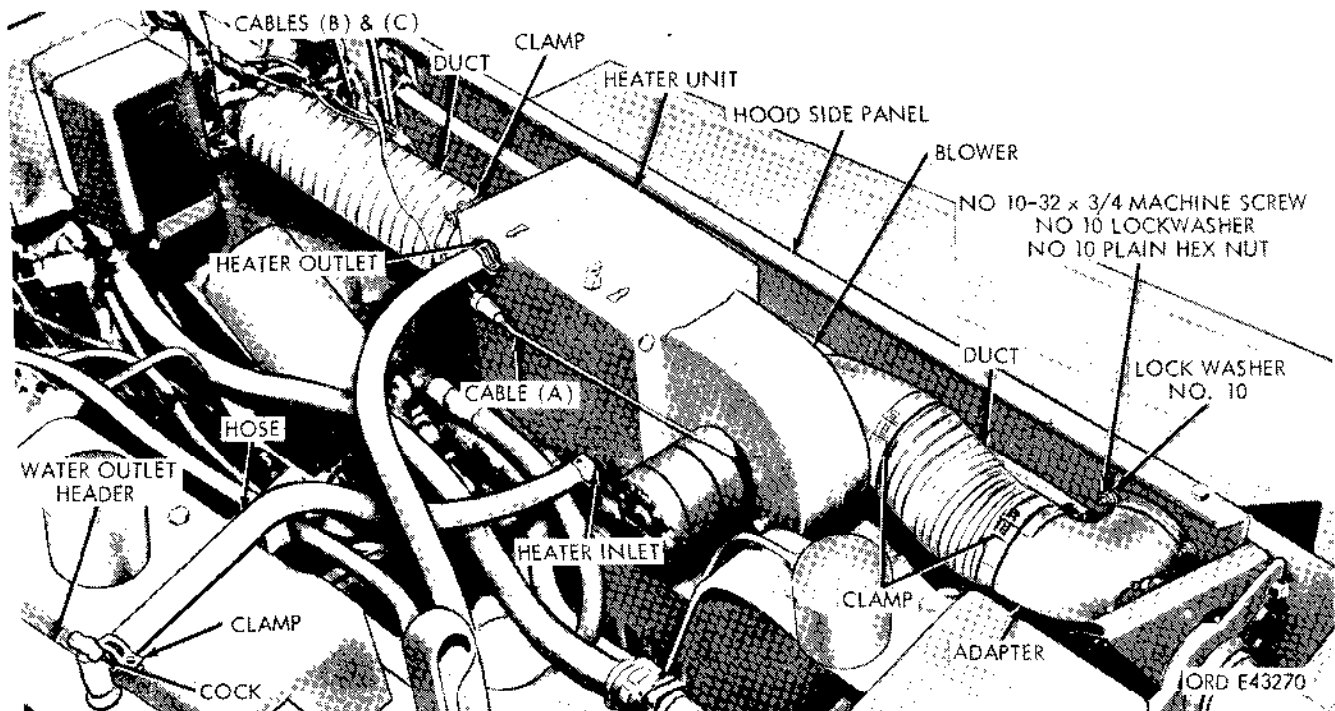

Figure 3-1. Personnel heater kit—hot water.
(1) Disconnect the cable (A, fig. 3-1) from the socket on the heater unit.
(2) Disconnect the cables (B and C, fig. 3-1) from the double connector.
(3) Loosen the two clamps (one clamp at either end of the heater unit). Disconnect both the outlet and inlet ducts from the heater unit (fig. 3-1). Disconnect the two hoses.
respective heater openings. Secure both ducts to the heater unit with two clamps (one to each duct) as shown in figure 3-1. Connect the two hoses.
(5) Connect the cables (B and C). Connect the cable (A) as shown in figure 3-1.
(Fig. 3-1)
*a. Removal.* Remove the clamps securing the heater unit hoses at both ends. Remove the hoses from the vehicle (fig. 3-1).